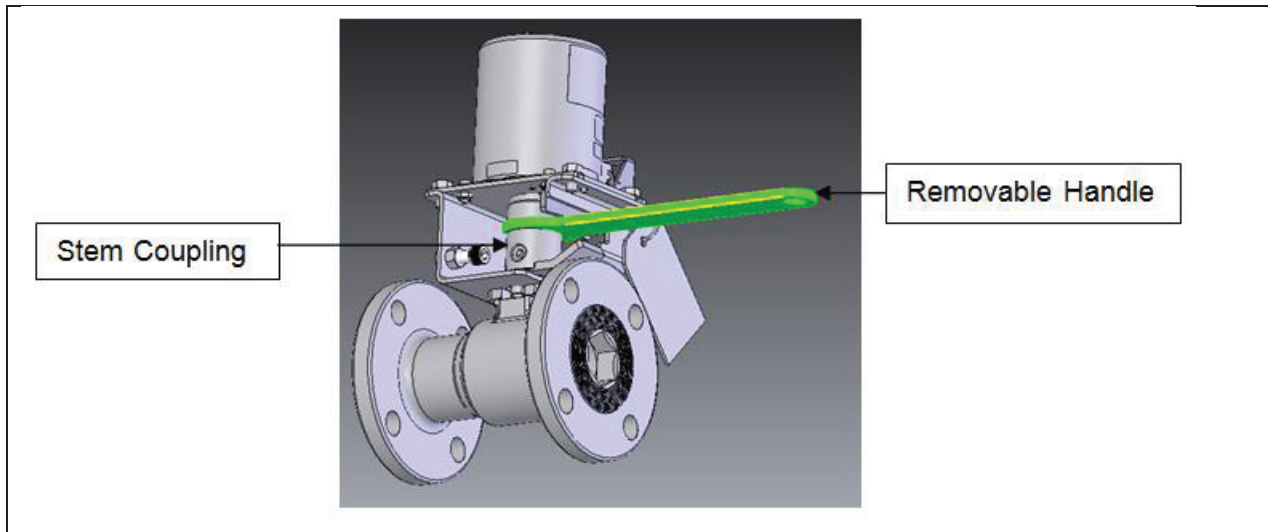

Figure 3 - How to Use Removable Handle
2. After installation, open and close Valve several times using removable Handle (see Figure 3), to be sure that it operates smoothly. Handle is to engage with flats on Stem Coupling as shown in Figure 3.